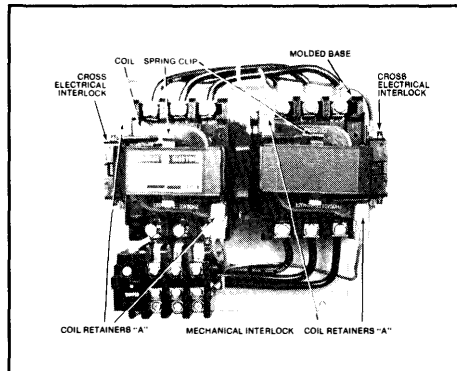

Figure 1. Typical CR309 magnetic reversing controller.
2. Press against coil while pulling up slightly on coil retainers (A—Figure 1) and move retainers away from coil.
4. Withdraw spring clip (B—Figure 1) and remove armature from movable arm.